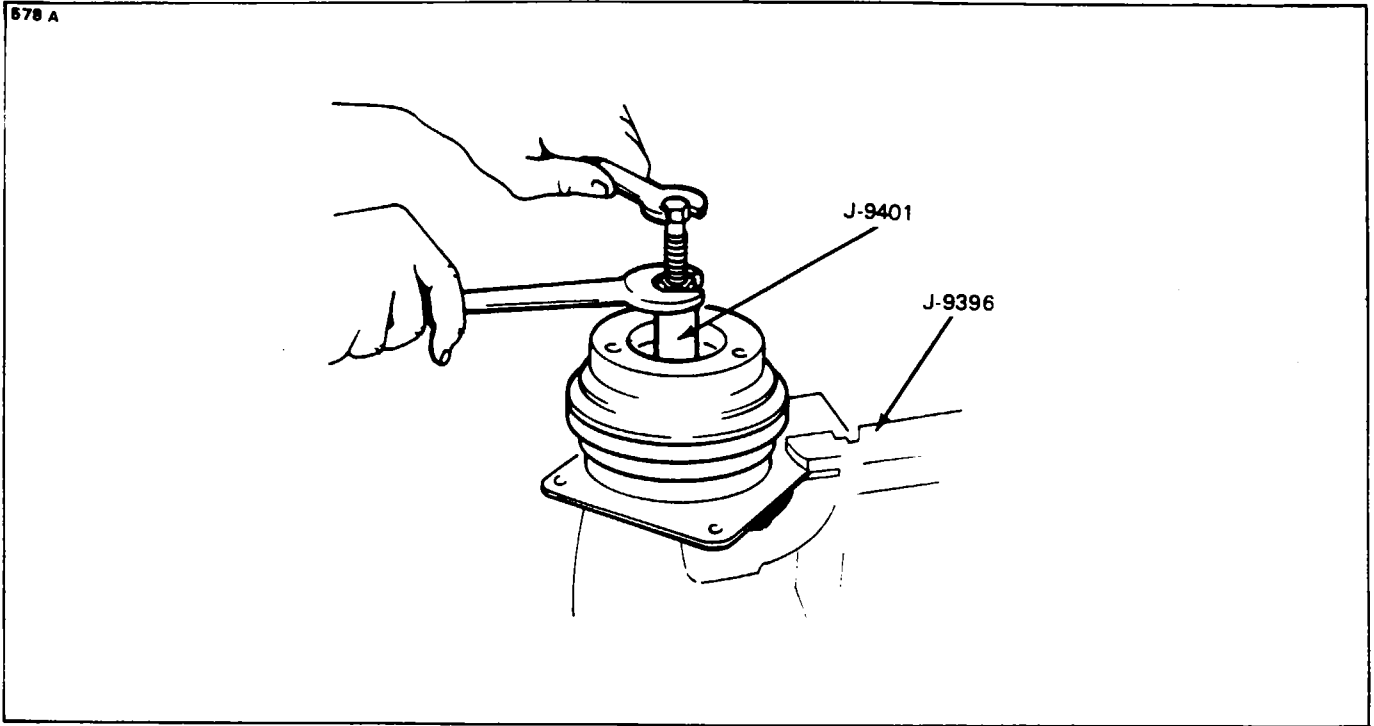

Figure 21-26. Removing Driven Plate
MAGNETIC CLUTCH, PULLEY AND COIL. (Refer to Figures 21-26 thru 21-36.)
2. Install puller J-9401 into hub of driven plate. Hold main body of tool and turn forcing screw clockwise to remove driven plate. (Refer to Figure 21-26.)